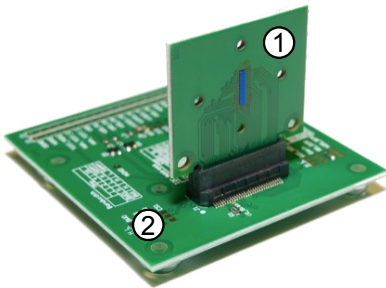
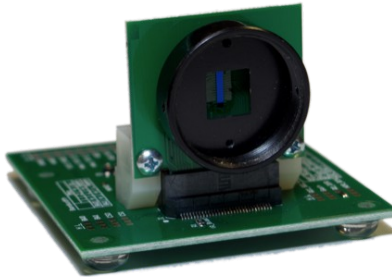
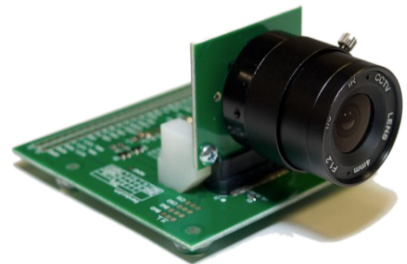

Figure 7: Carrier board on Evaluation board
Figure 8: Lens holder M12 on carrier board
Figure 9: System with lens
Figure 7 show the combination of the evaluation hardware with the chip carrier board ① inserted into the edge connector socket of the evaluation board ②. Figure 8 and Figure 9 depict the hardware with optional lens mount and lens, respectively.